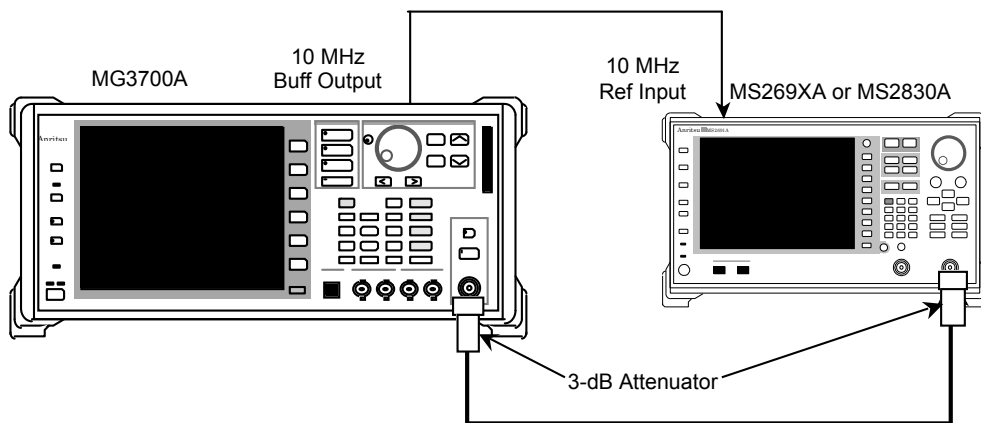

Figure 6.3.3-1 Linearity Calibration Setup
1. Setup the instruments as shown in Figure 6.3.3-1.
2. Set the signal analyzer (SA) as shown in #1 of Table 6.3.3-1 Signal Analyzer Settings.
3. Output a 399.99 MHz signal from the Vector signal generator (SG) at a level of 0 dBm (output level reference). This output level reflects the calibration value for item 6.3.1.
8. Change the SG output reference level to -25 dBm and repeat the measurements over in the same way down to a level of -40 dBm. Use the same frequency range/steps. (This output level reflects the calibration value for item 6.3.1.)